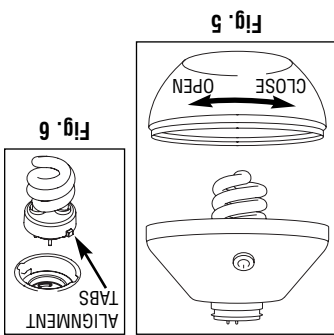

Fig. 5
2. Grasp globe on tent light and turn clockwise to remove. (Fig. 5)